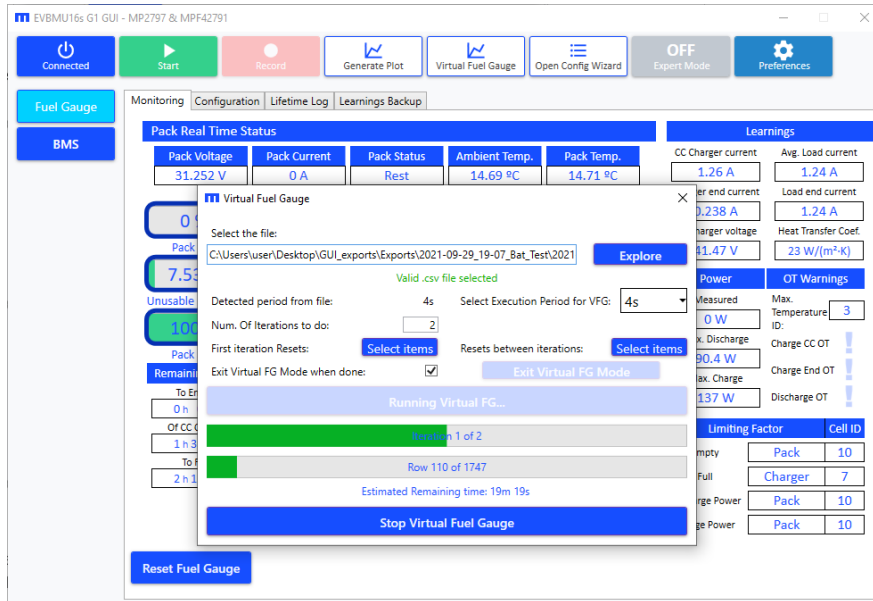

Figure 65: Virtual Fuel Gauge (Running)
- The virtual fuel gauge should run the tests. There are two progress bars to indicate the status of this process, as well as the ongoing iteration. The window also displays the estimated remaining time (see Figure 65).